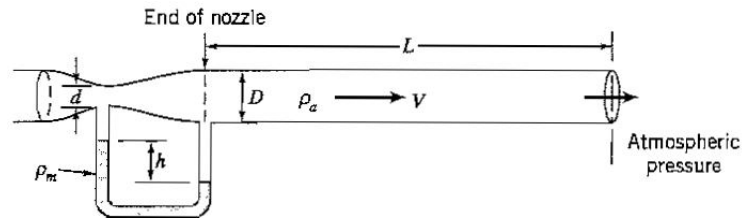

Figure P4.43
4.43 Air of constant density ρ_a flows steadily through a circular pipe of diameter D , which is downstream of a frictionless nozzle of diameter d , as shown in Figure P4.43. Assume one-dimensional flow. If the manometer reads a deflection of h , find the velocity V at the nozzle exit in terms of h , D , d , ρ_a and the density of the manometer fluid ρ_m .